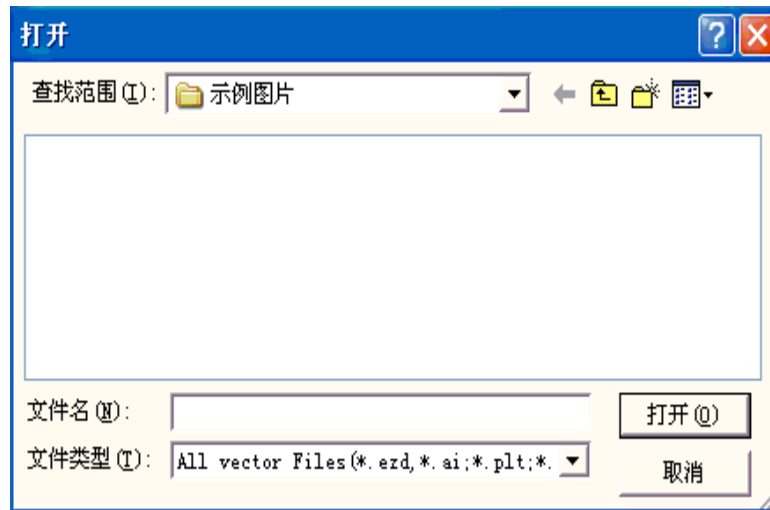

Figure 8-9
**VectorFile:** the vectorfile information show on the globe. Click “” then the dialog box popup shown as Figure 8-9